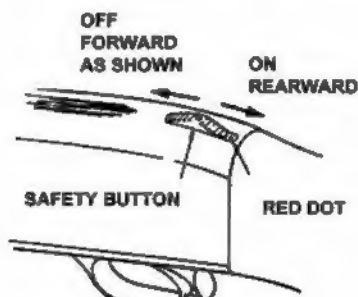

Fig. 2
The safety is located on the top rear portion of the receiver (Fig. 2) and must be manually moved to the desired position by the shooter.
To put the safety in the "ON" (SAFE) position, the safety button must be moved fully rearward into the safety detent. The button will now be over the red dot. The red dot is a training aid used only to show the direction of the "ON" (SAFE) position and should not be used as an indicator that the safety is "on" or "off" (Fig. 2). Moving the safety button forward toward the muzzle of the gun will put the safety in the "OFF" (FIRE) position.
Move the safety button fully rearward to the "ON" (SAFE) position (Fig. 2).
Before loading, move the safety button fully rearward (Fig. 2) to the "ON" (SAFE) position.
Move the safety button fully rearward (Fig. 2) to the "ON" (SAFE) position. During unloading, never allow fingers or any object to contact the trigger. Keep the muzzle pointed in a safe direction at all times.
**NOTE:** The safety button located on the upper rear of the receiver must be fully rearward in the "ON" (SAFE) position to remove the elevator assembly (Fig. 2).